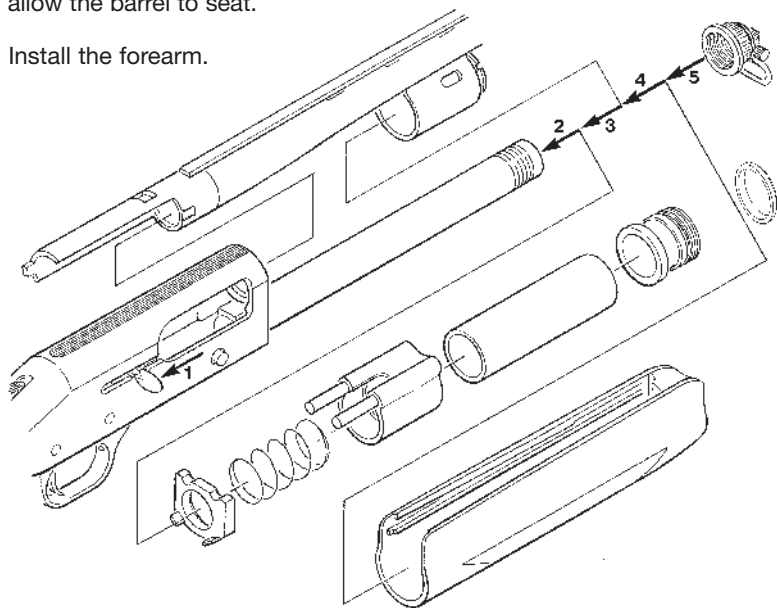

Figure 15
The gas system includes the magazine tube, seal ring*, gas piston, spacer tube, gas system return spring, and gas cylinder portion of the barrel (Figure 15). These parts should be thoroughly cleaned using solvent. A stiff brass bristle brush is useful for removing stubborn deposits.
1. Grasp the operating handle and lock the action in the “OPEN” position (Figure 15).
When interchanging barrels (combo models) or reinstalling the original barrel onto the firearm, YOU MUST ensure that the gas piston and seal ring* are present on the magazine tube prior to installing the barrel (see Figure 15). If the gas piston and seal ring* are not present on the magazine tube, remove them from the gas cylinder portion of the barrel that was on the firearm previously and place them onto the magazine tube as shown in Figure 15. Failure to do so may result in a dangerous malfunction, damage to the firearm and injury to the shooter and other persons. The firearm's owner must accept full responsibility for the correct reassembly and functioning of the firearm after any disassembly or replacement of parts.